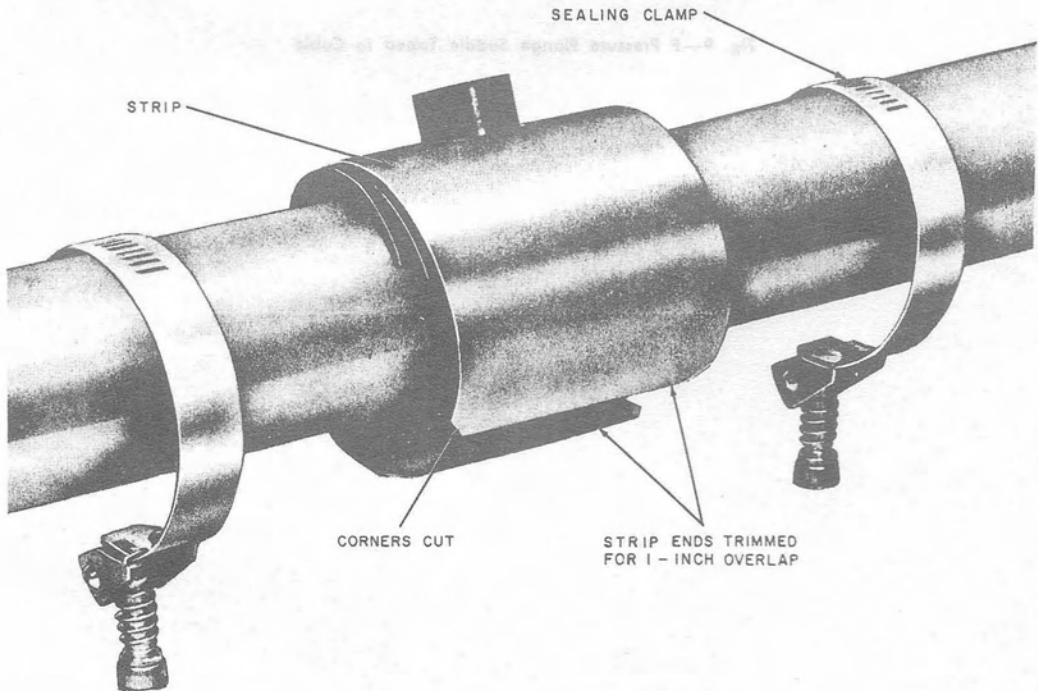
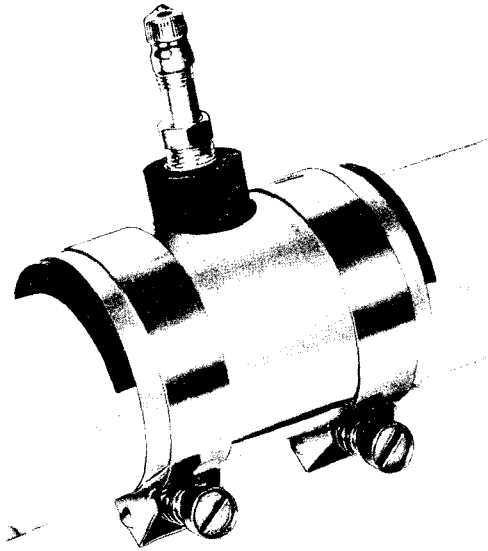

Fig. 10—Strip Formed Around Saddle and Cable
Fig. 11—F Pressure Flange Installed
- (9) Place the hole in the strip of sheet metal over the flange and form the strip snugly around the flange. Using shears, cut one end of the strip so the end lies directly under the cable and parallel to it (Fig. 10).
- (10) Cut the other end of the strip in like manner so that its edge overlaps the first edge by about 1 inch.
- (11) Cut 45-degree 1/4-inch corners off the strip; then, smooth all cut edges with a file.
- (12) Position the sealing clamps on the strip near the flange ends, with the heads of the tightening screws at the bottom of the cable, and tighten securely. Alternately tighten until both clamps are secure.
- (13) **Inspect** the threads of the valve or fitting to be installed in the flange to ensure that they are free from burrs and nicks that would prevent a good air seal. To prevent the engaged threads from galling or seizing, the male threads shall be coated with pipe-stick, teflon pipe-sealing tape, or teflon pipe-sealing spray. Holding the neck portion of the flange between the thumb and finger, screw the valve or fitting into the brass insert of the flange, using a suitable wrench, and then tighten **carefully** until the neck portion begins to twist (approximately 40 inch-pounds torque). The F pressure flange is shown installed in Fig. 11.